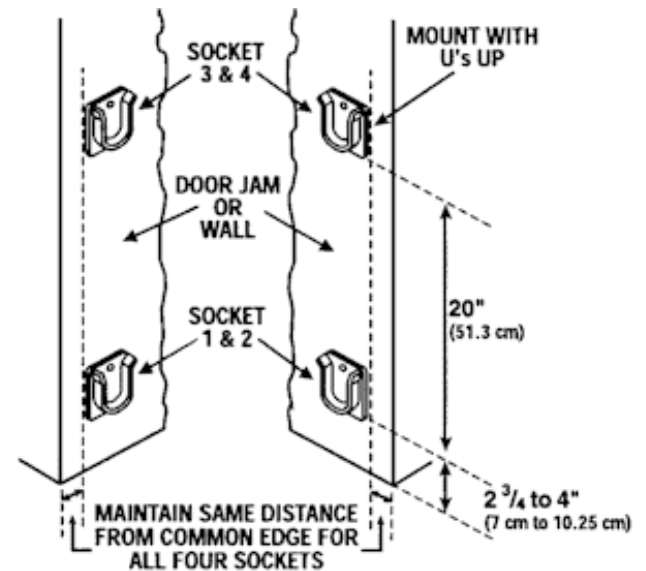

Figure 5
3. Remove protective cover sheet from one door socket, and with the "U" upright, press onto door jamb. Make sure the bottom of the door socket is at least 2 3/4" and not more than 4" above the floor. Make sure area is flat, clean and free from dirt, oil, etc. before pressing in place (see figure 5).
4. Mount second door socket on opposite side of opening or door jamb. Maintain the same distance from floor as door socket #1 (see figure 5).